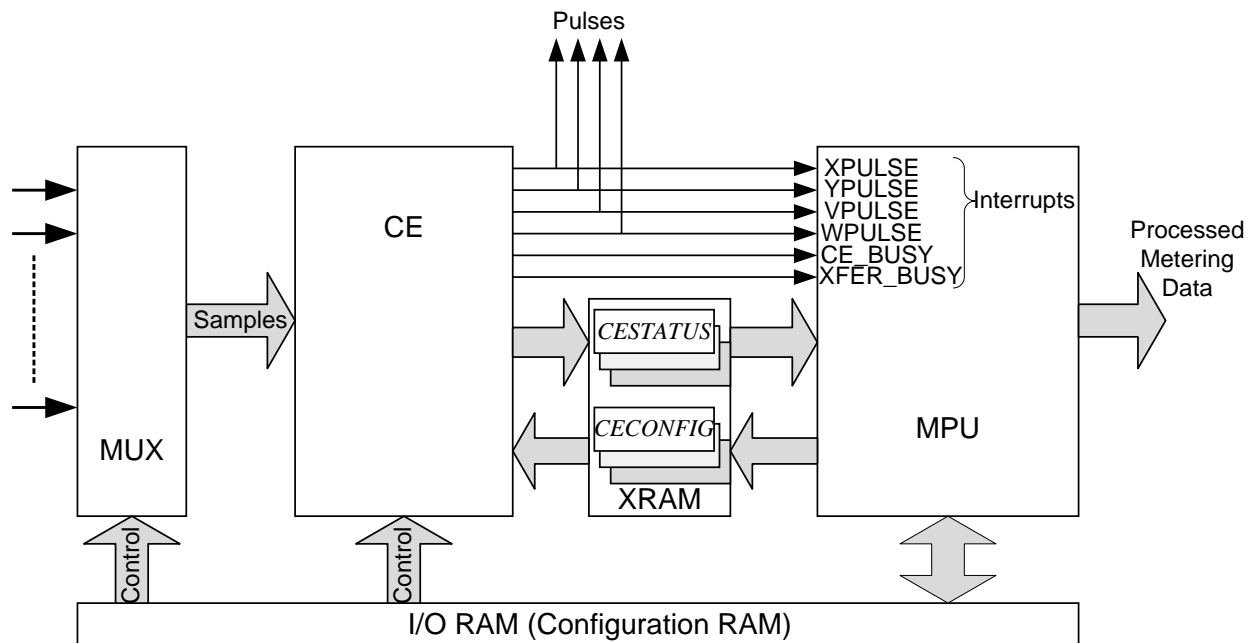

Figure 30: MPU/CE Data Flow
The data flow between the Compute Engine (CE) and the MPU is shown in Figure 30. In a typical application, the 32-bit CE sequentially processes the samples from the voltage inputs on pins IA, VA, IB, etc., performing calculations to measure active power (Wh), reactive power (VARh),  $A^2h$ , and  $V^2h$  for four-quadrant metering. These measurements are then accessed by the MPU, processed further and output using the peripheral devices available to the MPU.